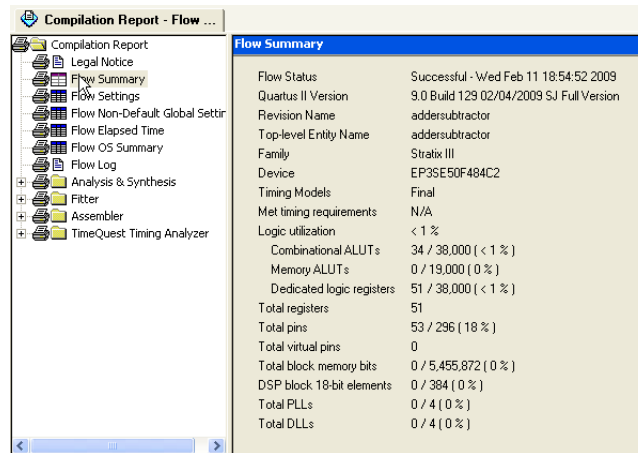

Figure 20: Compilation report.
2. When the compilation is finished, a compilation report is produced. A window showing this report, displayed in Figure 20, is opened automatically. The window can be resized, maximized, or closed in the normal way, and it can be opened at any time either by selecting **Processing > Compilation Report** or by clicking on the icon  in the toolbar. The report includes a number of sections listed on the left side of its window. Figure 20 shows the Compiler Flow Summary section, which indicates that only a miniscule amount of chip resources are needed to implement this tiny circuit on the selected FPGA chip.